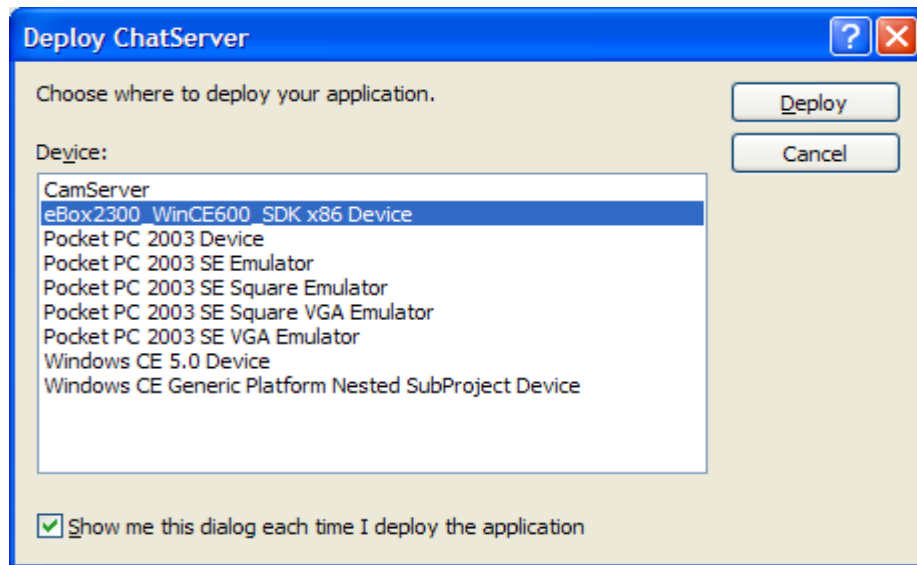

Figure 67. VS 2005 Deploy Window
11. Select Debug => Start Debugging to bring up the Deploy screen as shown in figure 67.
11. Select Your eBox SDK name and click Deploy as shown in Figure 67.